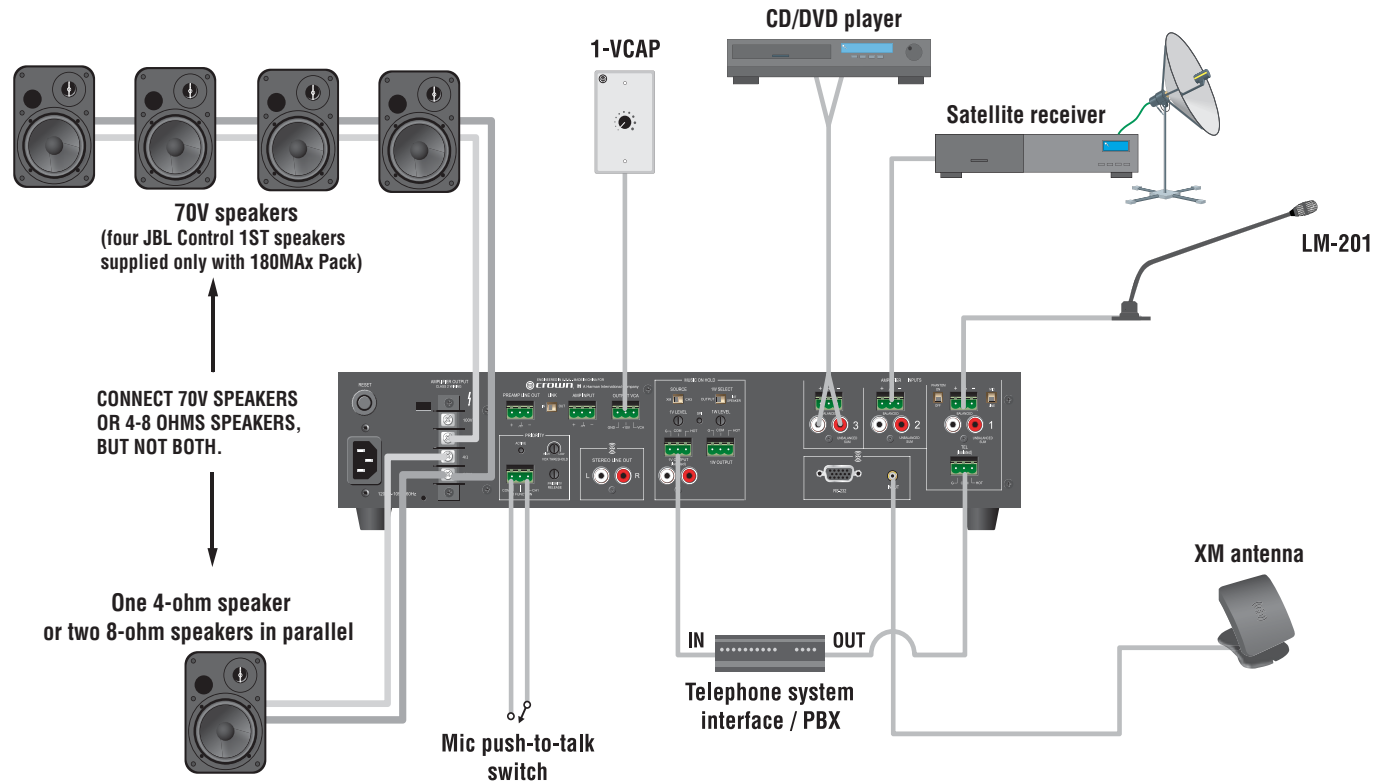

Figure 2.10 Input and Output Wiring
- **MOH 1V Line Output RCA Connectors:** Two RCA connectors (mono) for 1-volt Music-On-Hold output (in parallel with 600-ohm connectors, so they are isolated). See Figure 2.10.